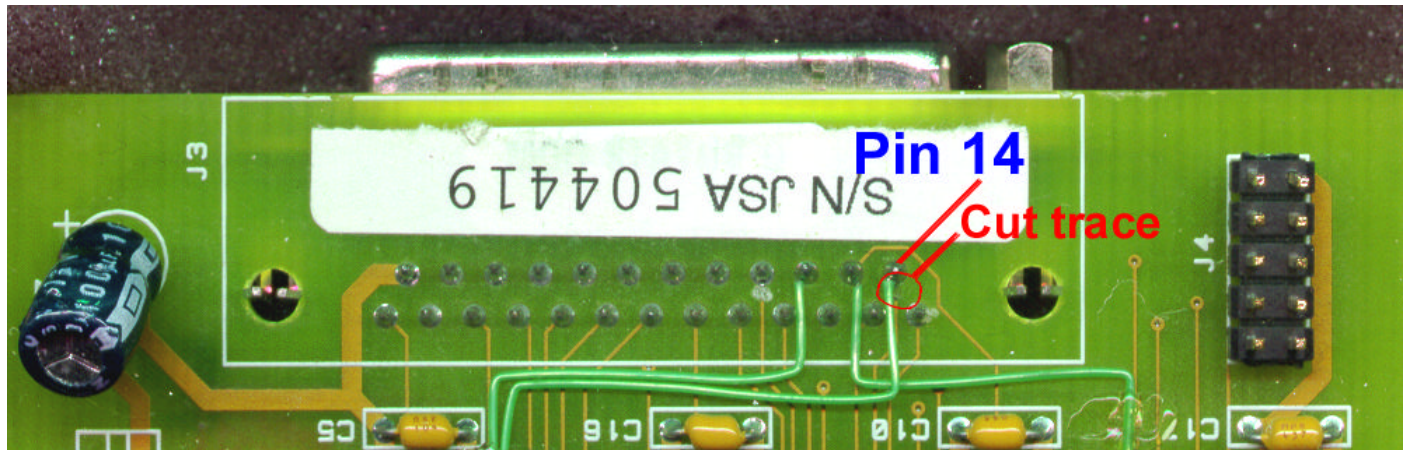

Figure 3. Pin 14 trace cut location
1. Using a razor blade or Xacto knife, cut the trace coming from Pin 14 of connector J3 (parallel port connector) going to chip U1. The best place to perform this cut is right at pin 14 on the component side of the board. See Figure 3 for a visual description of where this is.